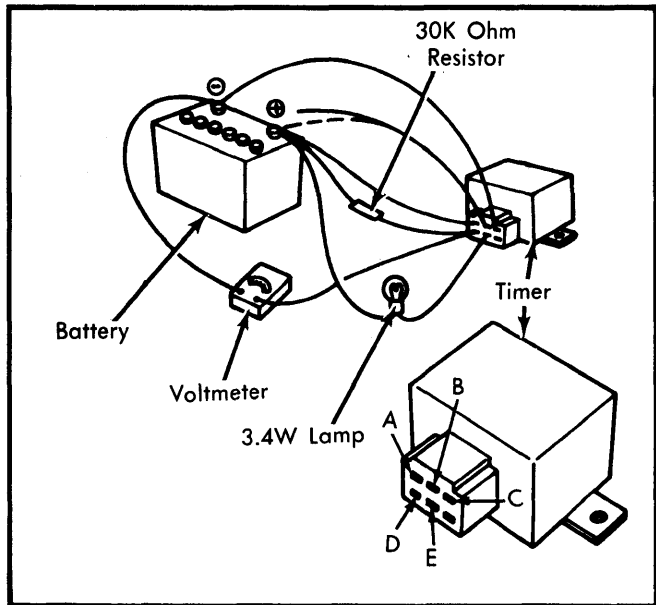

Fig. 4 Timer Test (2.3 Liter Engine – Calif.)
2.3 Liter Engine (Calif.) – 1) Remove timer. Connect jumper wires to timer terminals "A", "B" and "C". Connect jumper wires with 30K ohm resistor to terminal "D". Connect jumper wire with 3.4W lamp to terminal "E". See Fig. 4.